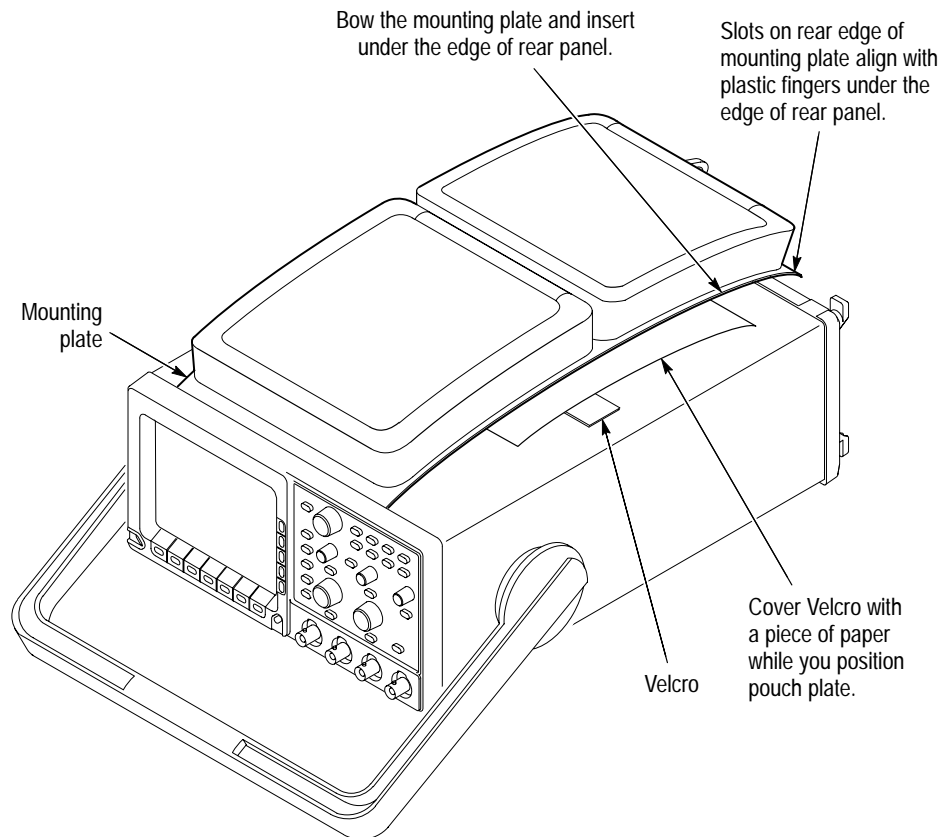

Figure 3: Inserting the rear edge of the mounting plate
6. Refer to Figure 3. Cover the Velcro on the cabinet with a piece of paper. (The paper keeps the Velcro on the pouch plate and the cabinet from sticking together while you position the rear edge of the pouch plate.)